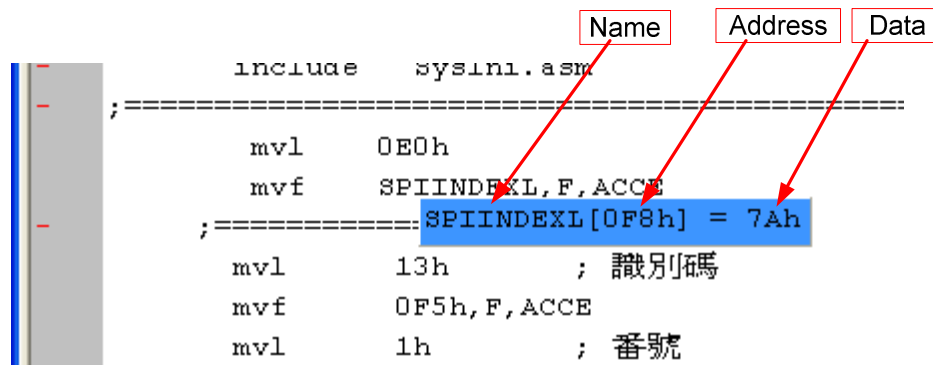

Figure 62
- (1) Click the network by mouse, CPIL is select to the specified network.
- (2) Click the network switch by mouse, CPIL is select to the specified network.
- (3) Click the mouse, a menu as Figure 62 will appear. Users can select to the specified switch network.